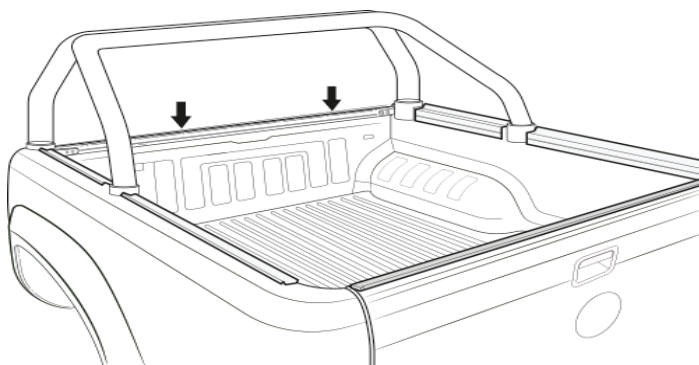

Figure 3
6. Attach the bar bracket into the middle rail by placing a 4mm rivet through each hole of the bracket and into the holes located at 160 and 193mm of the rear side rail. Rivet into place. **See Figure 3**
11. Mark & drill two 320mm tailgate pieces 50mm in from each edge, 30mm up from the top edge of the rail using a 4mm drill bit. **See Figure 3**